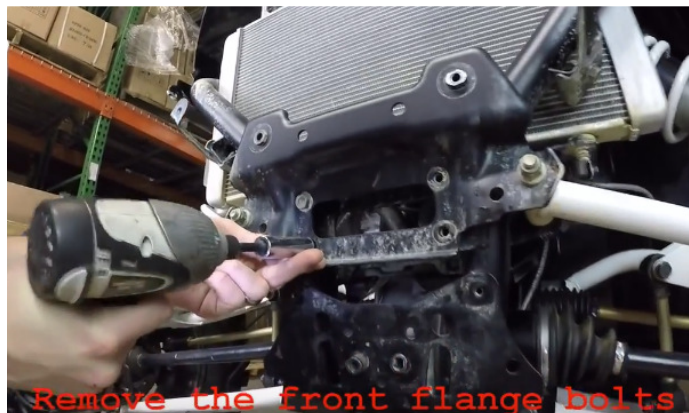

Figure 6
- 6) Removed the four flanged bolts and install the MA11906-3 Fairlead Bracket (part #4) included in the kit. Reuse the four flanged bolts and tighten using an open ended wrench. Install your winch's fairlead to the fairlead bracket using the hardware included in your winch kit as shown in Figure 6 & 7.